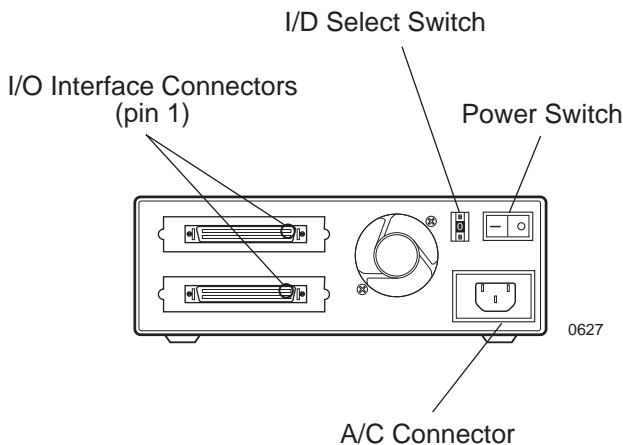

Figure 4: Data Silo Rear Panel (DS50 1-Bay Shown)
(See Figure 4)
5. **SCSI ID Cable** - Each Data Silo is supplied with one SCSI ID select cable per drive bay. The ID cable permits external unit ID selection via a small switch located on the rear panel of the Data Silo (Figure 4). One end of this cable attaches to the drive SCSI ID pins and the other end attaches to the Data Silo unit ID select switch. One end of this cable has a single connector with 1.25mm pin spacing. The other end contains individual 2mm connectors. This cable can be used with drives that have either 2mm or 1.25mm pin configurations by simply reversing the cable. The Data Silo unit select switch contains connectors that except either end of this cable.